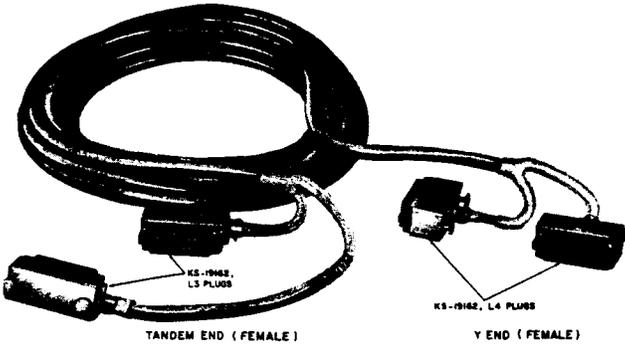
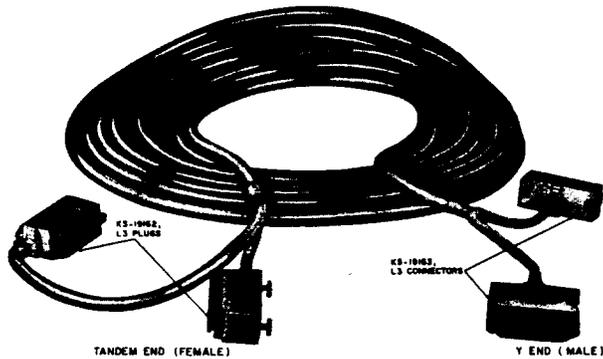

Figure 19—P100A Cord
Figure 20—P100B Cord
3.02 The P100A (Figure 19) and P100B (Figure 20) cords are used to extend all AT&T test connector cords except the D, G, H, N, and R. The cords are not supplied with the test connectors and must be ordered separately.